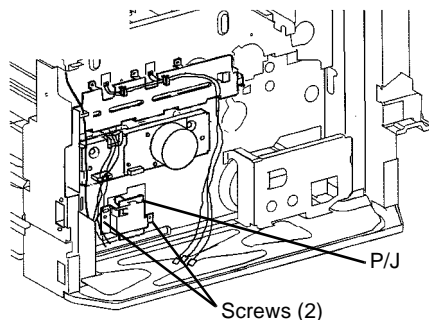

Figure 1 Removing Tray Paper Size Switch
- a. Release harnesses from harness clips (3).
- b. Remove screws (4) and remove Chassis.
6. Remove Tray 1 Paper Size Switch (Figure 1).
- b. Remove Screws (2) and remove Tray 1 Paper Size Switch.